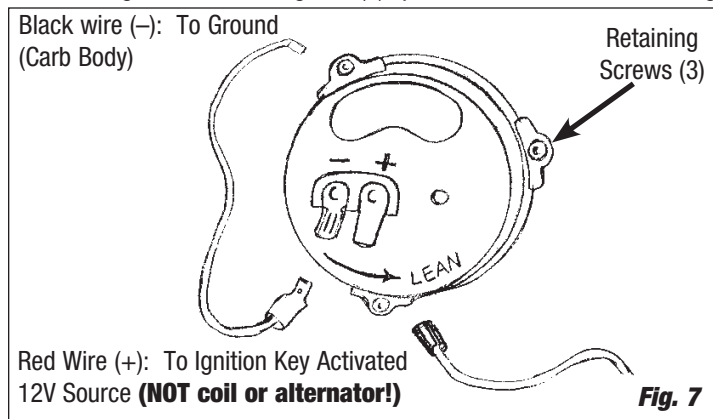

Fig. 7
3. On electric choke models (See Fig. 7), remove one choke housing retaining screw and install eyelet end of choke ground wire (black) to the choke housing, and reinstall the screw. Connect clip end of choke ground wire to negative (-) spade terminal on choke housing.
5. Manual choke: Connect manual choke cable to the choke lever cable mounting bracket (See Fig. 9). Electric choke: Connect the red choke wire to a 12 volt positive (+) source that is activated by the ignition switch (**Not the coil or alternator; see Fig. 7).**